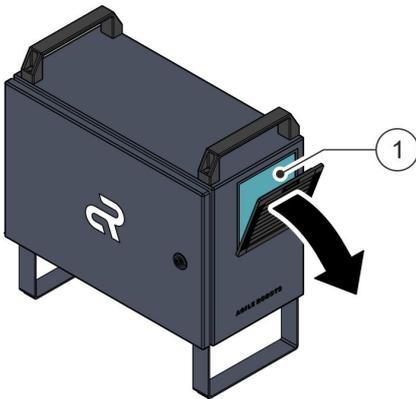

Fig. 88 Folding down the cover
01. Carefully fold down the cover on the fan filter **Fig. 88**.
02. Check the filter unit for soiling **Fig. 88**/①.